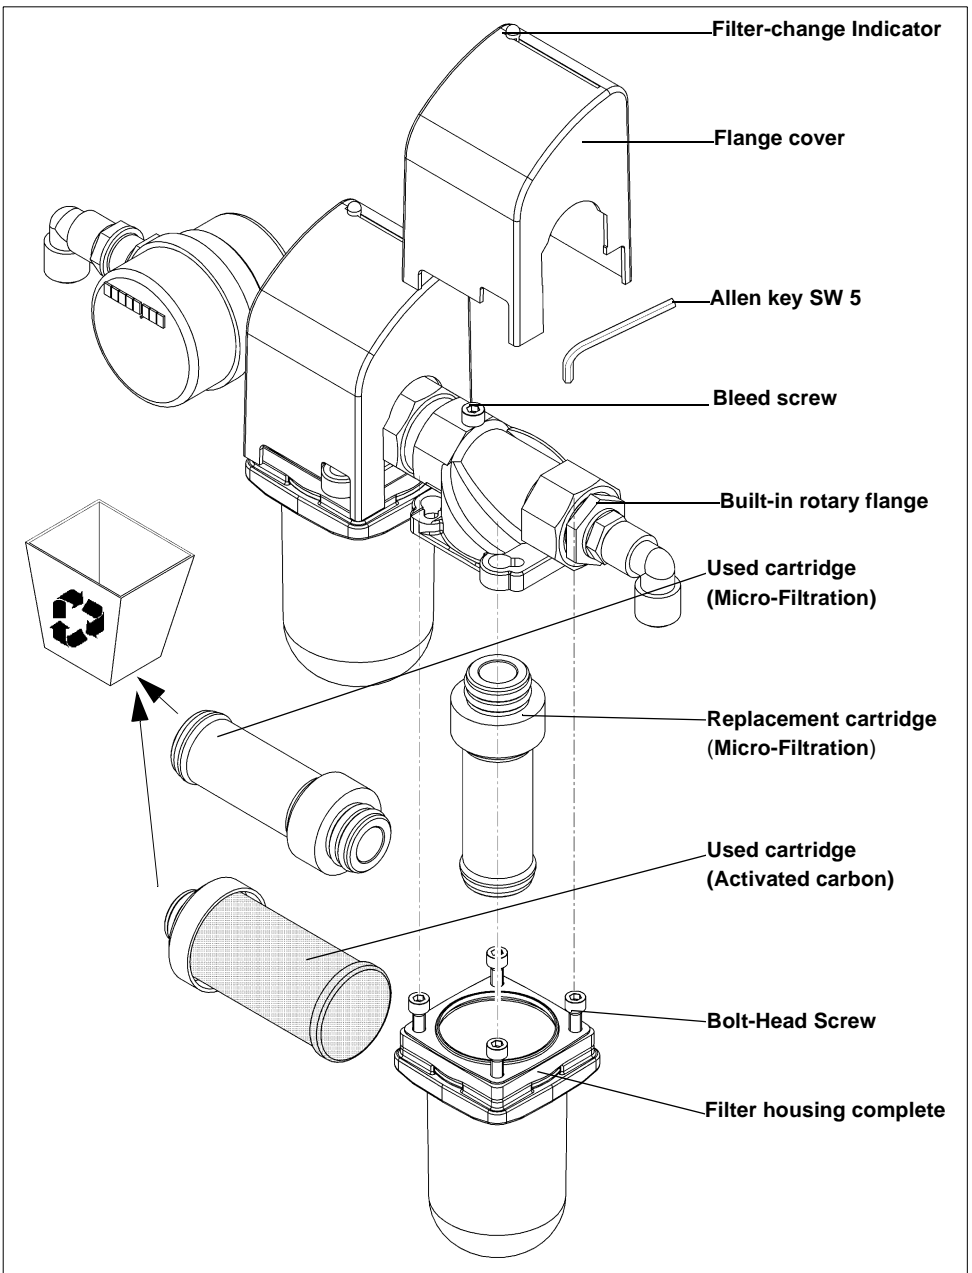

Fig. 10: Replacing the cartridge
- 3 Remove the flange cover upward (see Fig.10).